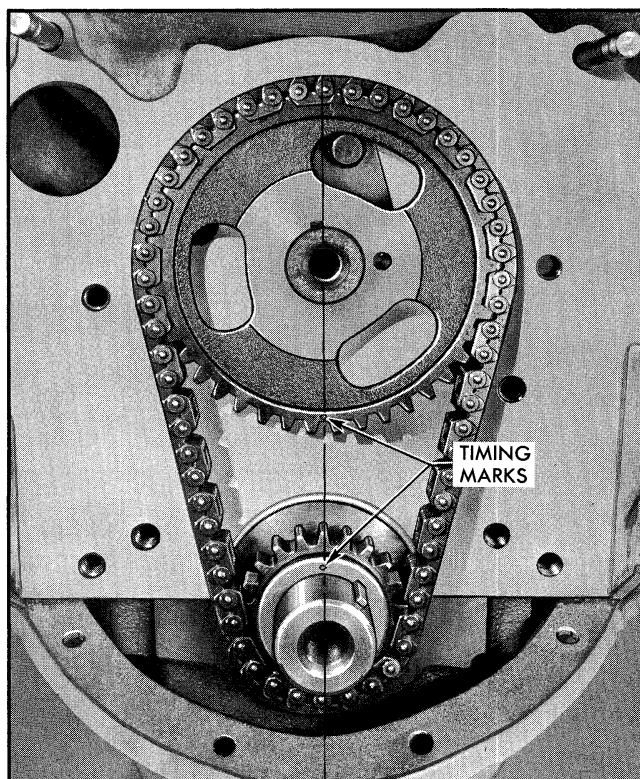

Fig. 6-150 Aligning Timing Marks
11. Remove sprockets and timing chain (Fig. 6-150).
7. Install sprockets and timing chain, making sure timing marks on sprockets are aligned properly (Fig. 6-150).